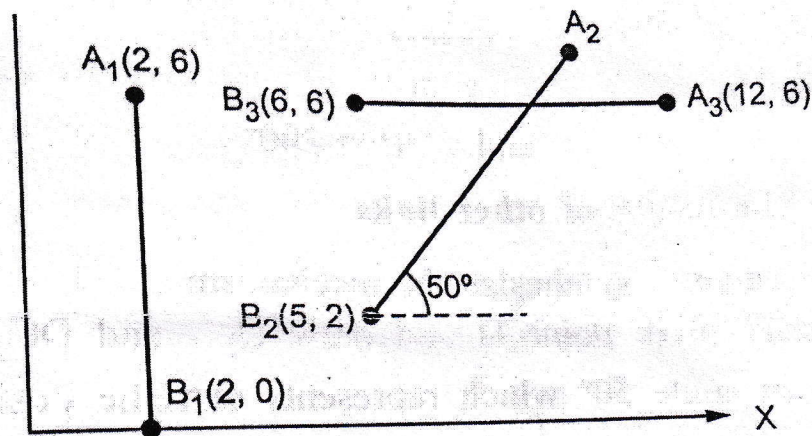

Figure 5
- Q.6) a) Synthesis a four bar mechanism to move a rigid body AB successfully through three position given by the figure 5: [6]